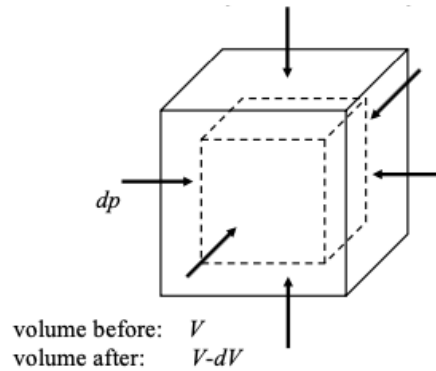

FIGURE 13.10. A schematic illustrating the concept of the bulk modulus.
- (5) Equation (13.53) can also be written in terms of the bulk modulus. The bulk modulus, E_v , of a substance is a measure of the compressibility of the substance. It is defined as the ratio of a differential applied pressure to the resulting differential change in volume of a substance at a given volume (refer to Figure 13.10),